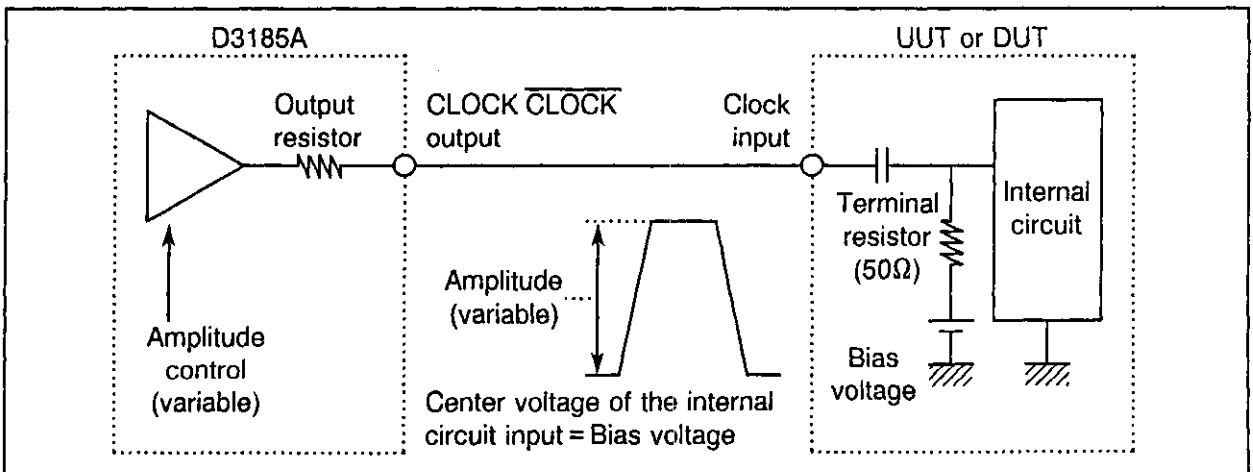

Figure 4-6 With CLOCK  $\overline{\text{CLOCK}}$  Output Used in AC Mode and AC-connected Termination
(2) If the UUT or DUT clock Input is AC-connected (See Fig. 4-6.)